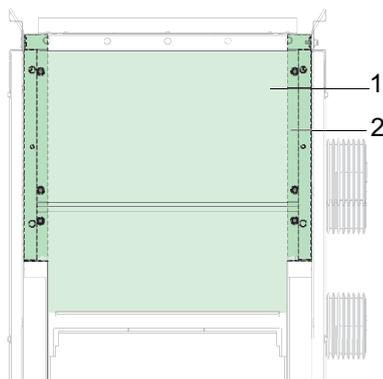
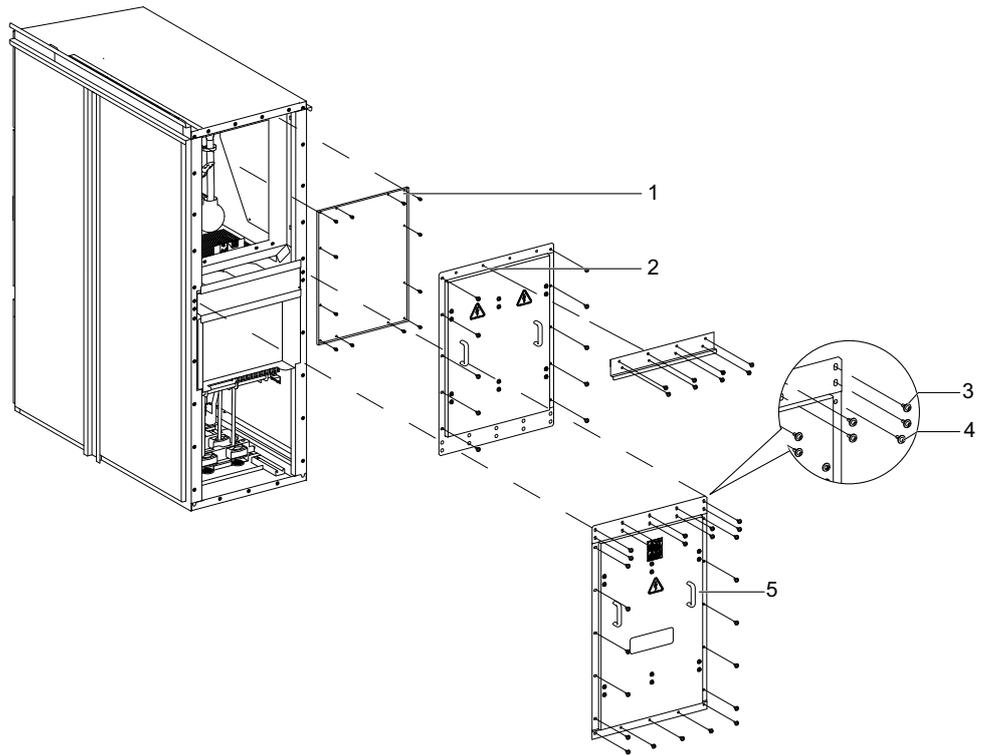

Figure 81
Figure 83
2. Remove the M8 bolts along with washers, and disassemble the maintenance sheet (1). Refer to Figure 81.
2. To remove the maintenance sheet (1), remove the M8 screws (2) and washers (3), and disassemble the maintenance sheet (1). Refer to Figure 81 Access to the Busbar Compartment from Front Side AFL, page 90.
1. To remove the rear cover of the cubicle, first remove the bottom rear cover (5) of the cubicle by unscrewing M8 screws (4) and washers (3) provided on rear cover. Refer to Figure 83.
2. Open the top rear cover (2).
3. To remove the maintenance sheet (1), remove the M8 screws (4) and washers (3), and disassemble the maintenance sheet (1). Refer to Figure 81 Access to the Busbar Compartment from Front Side AFL, page 90.